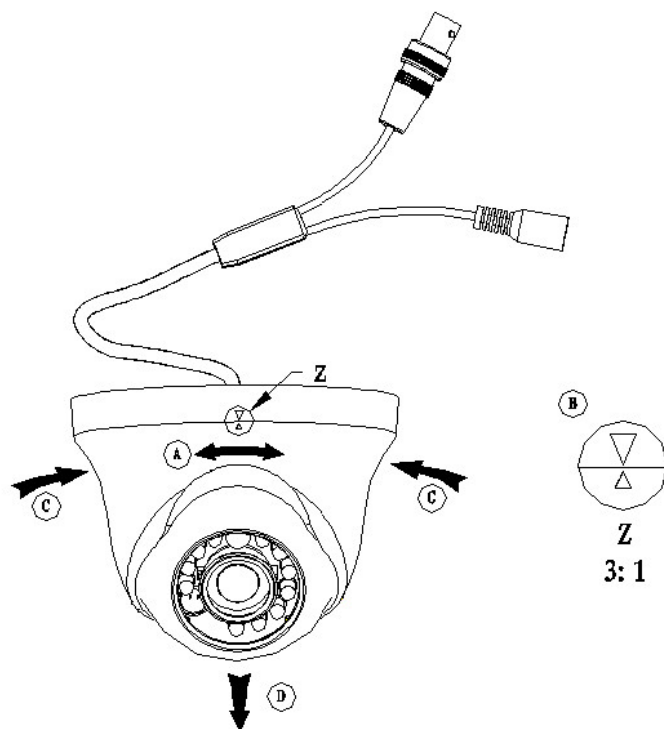

Figure 3-1
Take the device out, use your left hand to hold the device pedestal and then right hand to turn the external enclosure (A) to the corresponding position of the arrow in the pedestal (B). Use your right hand to push the both sides of the external enclosure to remove the buckle (C) and then pull the external enclosure (D) from the pedestal. See Figure 3-1.